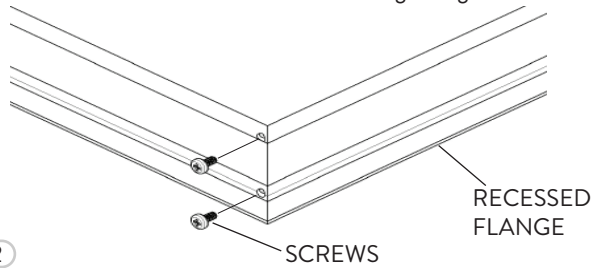

FIG. 12
- 1 Start off by assembling the Recessed Flanges together by fastening the Screws to the corners of the Recessed Flanges (Fig. 12).